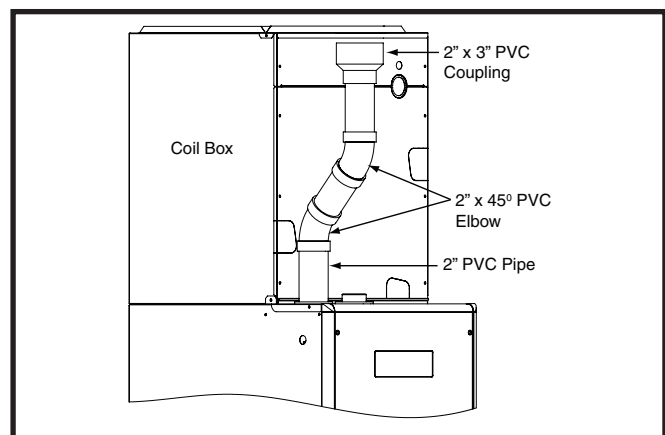

Figure 21. Optional PVC Pipe Installation
- If the size of the PVC flue needs to be increased from 2" to 3", two, 2" x 45° PVC elbows may be used to achieve the clearances needed between the coil box and the 2" x 3" coupling. See Figure 21 \(page 18\).